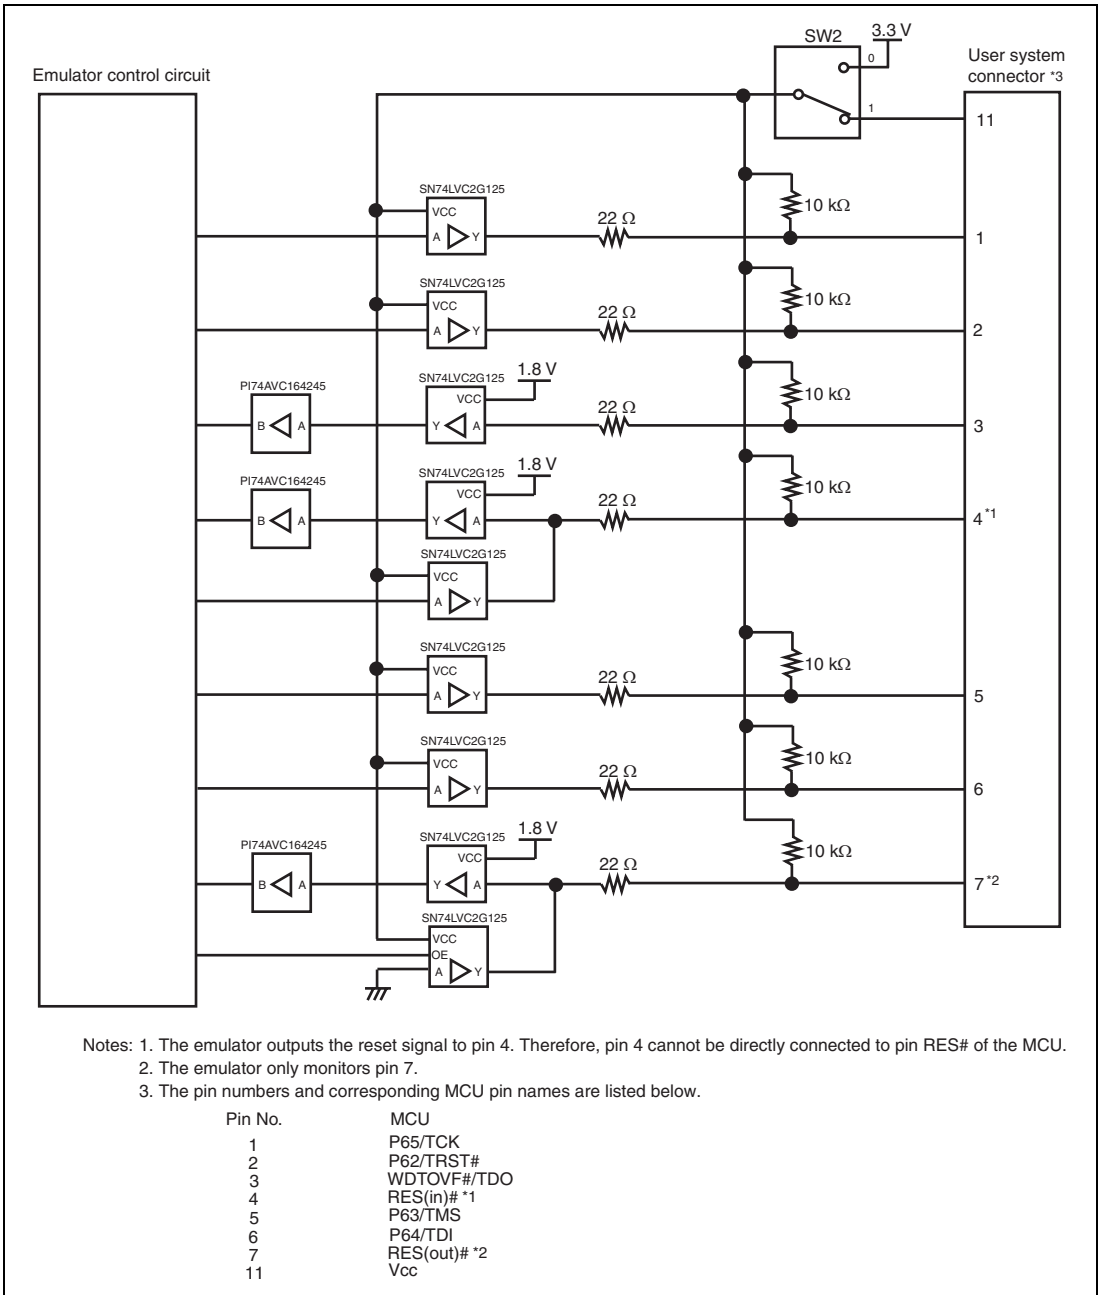

Figure 1.7 Interface Circuit in the Emulator (Reference)
6. Figure 1.7 shows the interface circuit in the emulator. Use this figure as a reference to decide the pull-up resistance value.